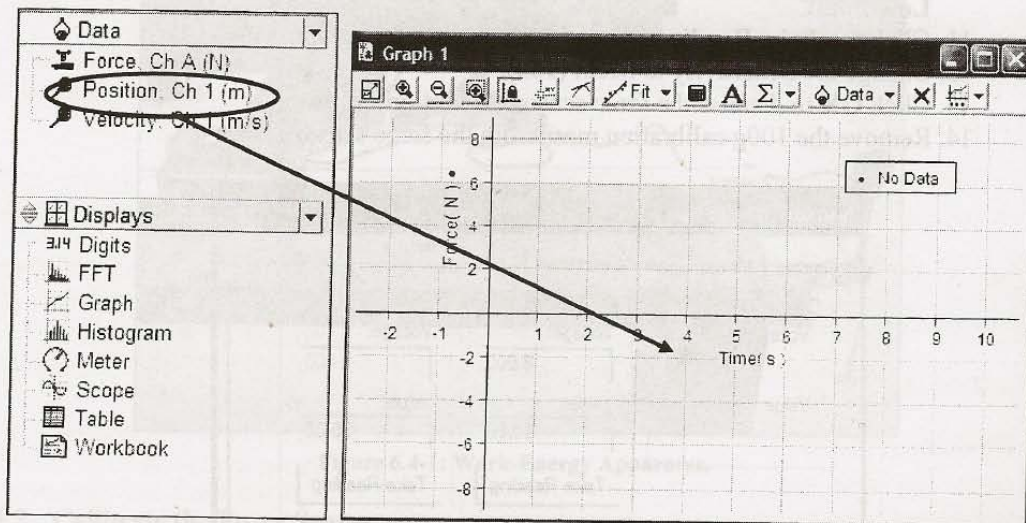

Figure 6.4-4: Drag the position icon from the data pane to the time axis to obtain a force vs. position plot.
- Now drag the **Position, Ch 1 (m)** icon from the **Data** pane onto the x-axis of the graph (See Figure 6.4-4). When you see a dashed line around the x-axis release the mouse. You should now have a graph of force vs. position.